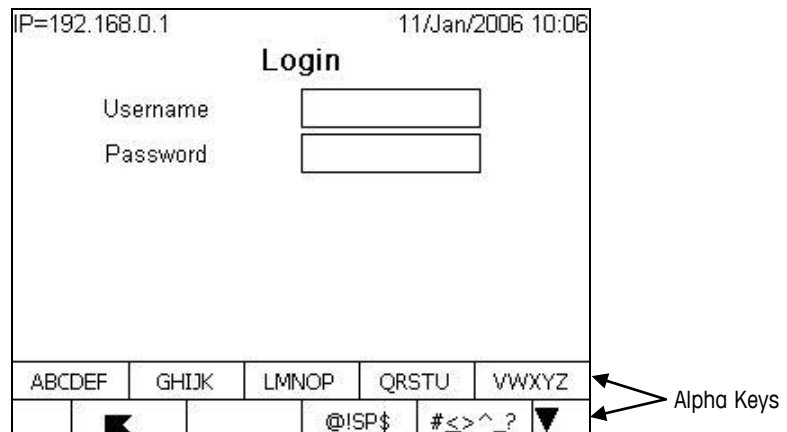

Figure 3-2: Login Screen (Alpha Keys)
1. Press the ENTER key to change the focus and access the Username entry box. The softkeys change to alpha keys (see Figure 3-2).
1. With focus on the Password field label, press the ENTER key. The softkeys change to alpha keys (see Figure 3-2) and focus moves to the Password entry box.